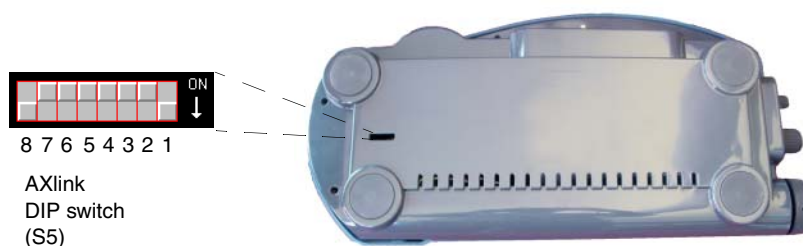

FIG. 6 AI8 AXlink DIP switch location (default set to 129)
1. Gently rotate the panel (bringing the joystick to the left) over until you can lay it down and expose the slender opening on the underside of the unit. The slot exposes the AXlink DIP switch on the internal AI8 circuit card (FIG. 6).
2. Use a slender screwdriver to change the internal DIP switch positions from their default value of 129 (FIG. 6).
3. Set the AXlink device number by changing the AXlink device DIP switch positions 1 – 8 (FIG. 6). The total value of all ON (up) positions on the DIP switch sets the device number. The DIP switch value range is between 1 - 255, and is set according to the Device DIP switch